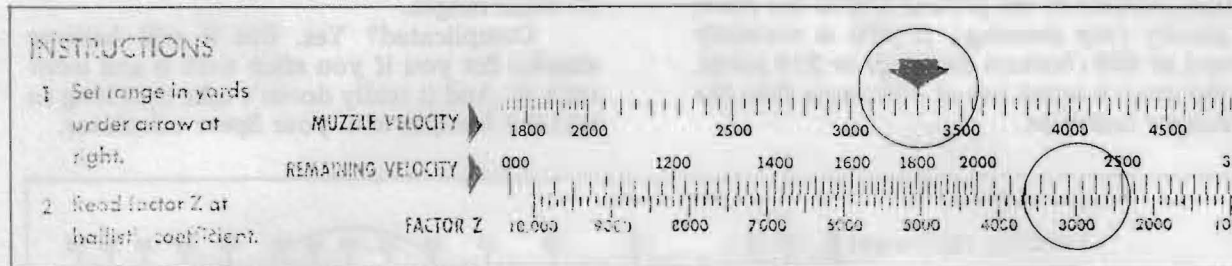

FIGURE 18 — Remaining velocity is indicated as 2,300 fps.
2. Reset the computer so that the mark corresponding to a muzzle velocity of 3,300 is opposite the black arrow in the bottom window. Find the Z factor of 3050 on the scale at the bottom. Above this line is the line indicating that your remaining velocity is 2,300 fps (see Figure 18).